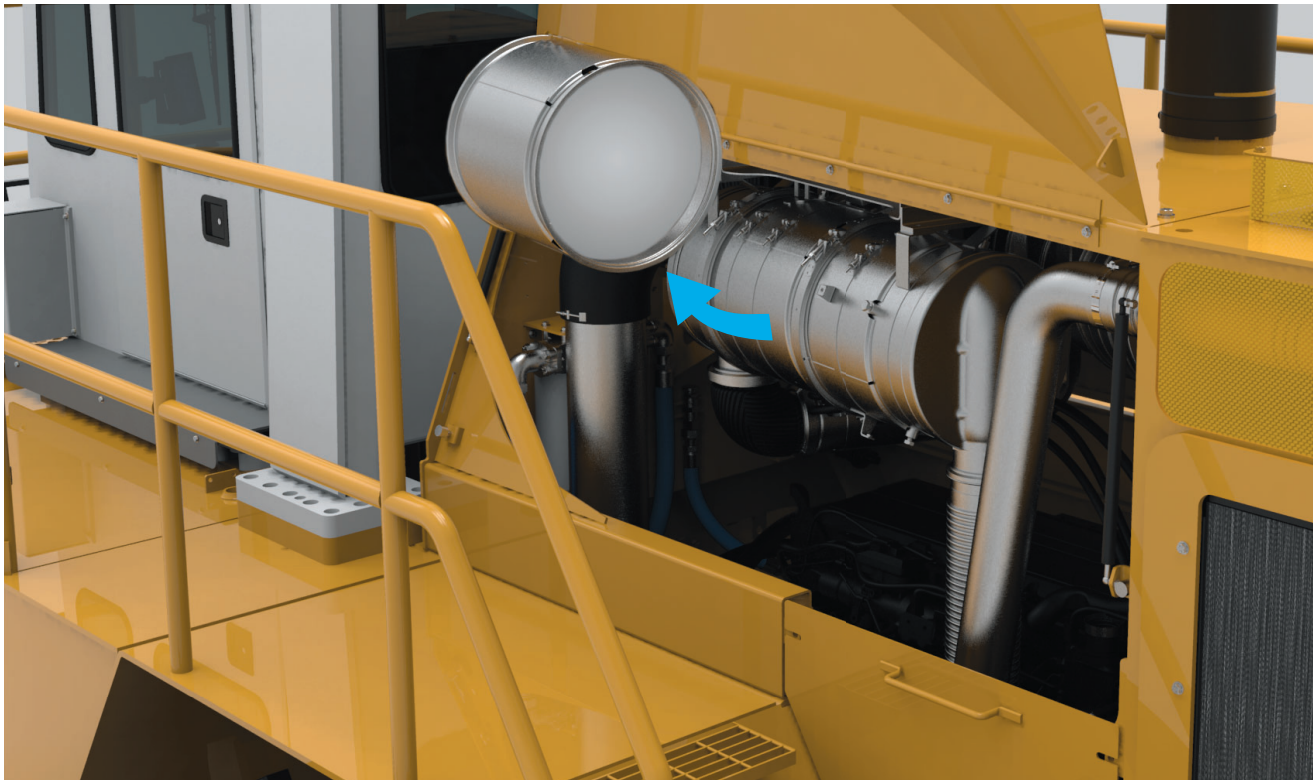

Figure 30 Removing Diesel Particulate Filter
The Diesel Particulate Filter (DPF) is mounted on top of the engine, left side. See Figure 30.
4. Remove the DPF. See Figure 30.